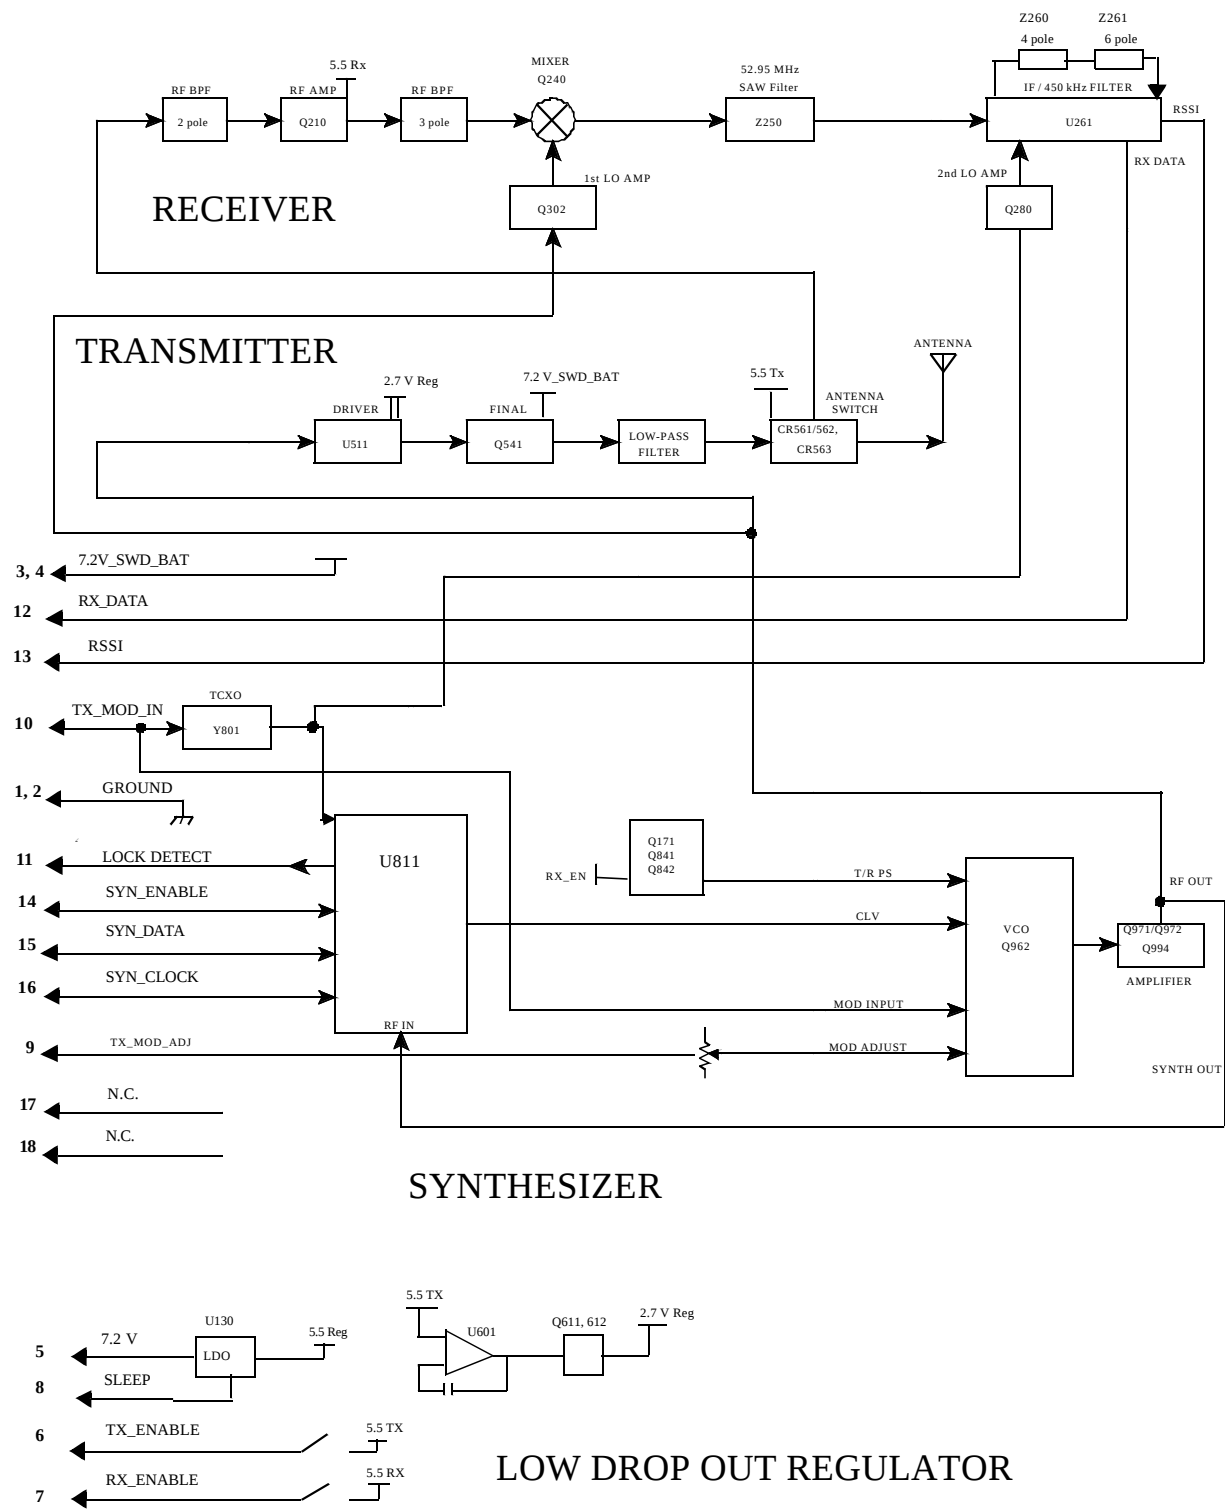
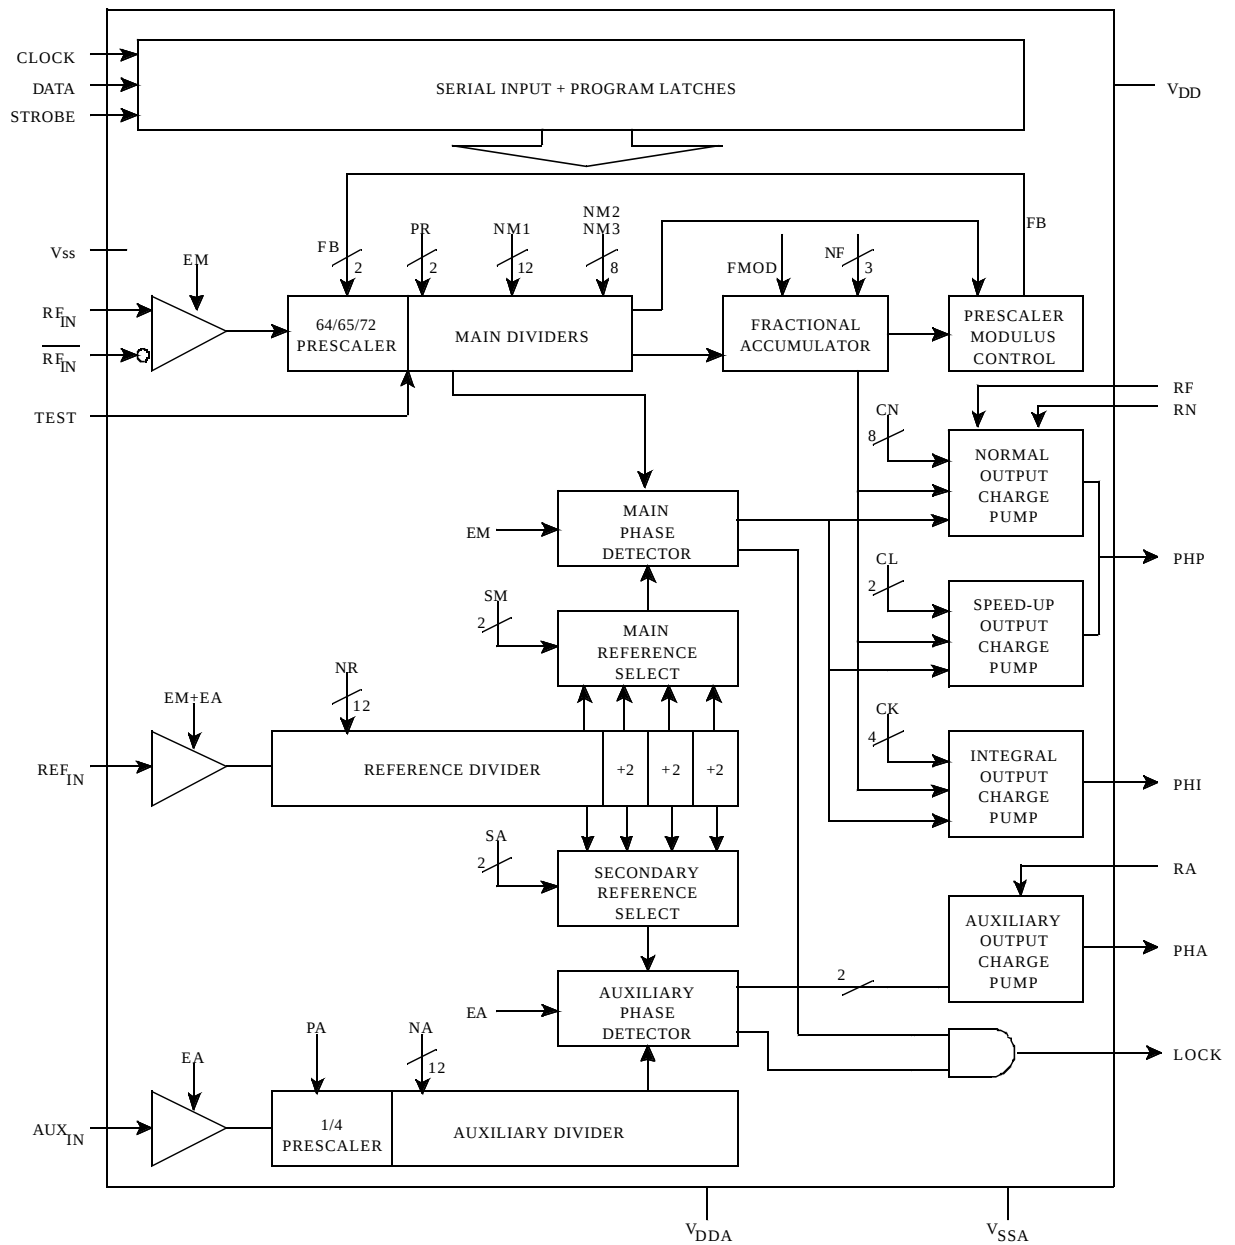

Figure 4-1 DATA TRANSCEIVER BLOCK DIAGRAM
Figure 4-2 U811 SYNTHESIZER BLOCK DIAGRAM
The DM-3473 consists of a low dropout regulator power supply, frequency synthesizer and VCO (voltage controlled oscillator), 2 watt RF power amplifier, and dual down conversion FM receiver. A block diagram of the transceiver is located in Figure 4-1 and shows the four major sections of the unit.
Channels are selected by programming counters in U811. Section 3 of this manual shows how to program the Phillips SA7025A Frequency Synthesizer for the DM-3473. This programming is performed over a 3-wire serial bus formed by pins 14, 15, and 16 of user interface J201. These pins are labeled Synth Enable, Synth Data, and Synth Clock. This programming is supplied by customer hardware and software interface equipment. A block diagram of the synthesizer/VCO is shown in Figure 4-1 along with a block diagram of the Phillips synthesizer IC SA7025A in Figure 4-2.
The receiver on the 3473 is a FM dual down conversion superheterodyne topology. Dual down conversion means that the receiver has two intermediate frequencies (IF) of 86.85 MHz and 450 kHz. The first local oscillator (LO) is high side injected 86.85 MHz above the desired receive frequency. This is the function of the VCO in receive mode. The design also incorporates two discrete bandpass filters to reject image and other wideband frequencies. A surface acoustic wave (SAW) filter is implemented in the first IF to enhance receiver selectivity. 10 poles of filtering are used in the second IF to further improve selectivity and to set the IF bandwidth of either 12.5 kHz or 25 kHz. Figure 4-1 shows the receiver block diagram for the 3473 radio module.
A loop is formed by VCO Q962, amplifier Q971/Q972, Q994 and the RF IN of U811 (see Figure 4-1). If any of these components begin to malfunction, improper signals appear throughout the loop. Correct operation of the counters can still be verified by measuring the input and output frequencies to check the divide number.